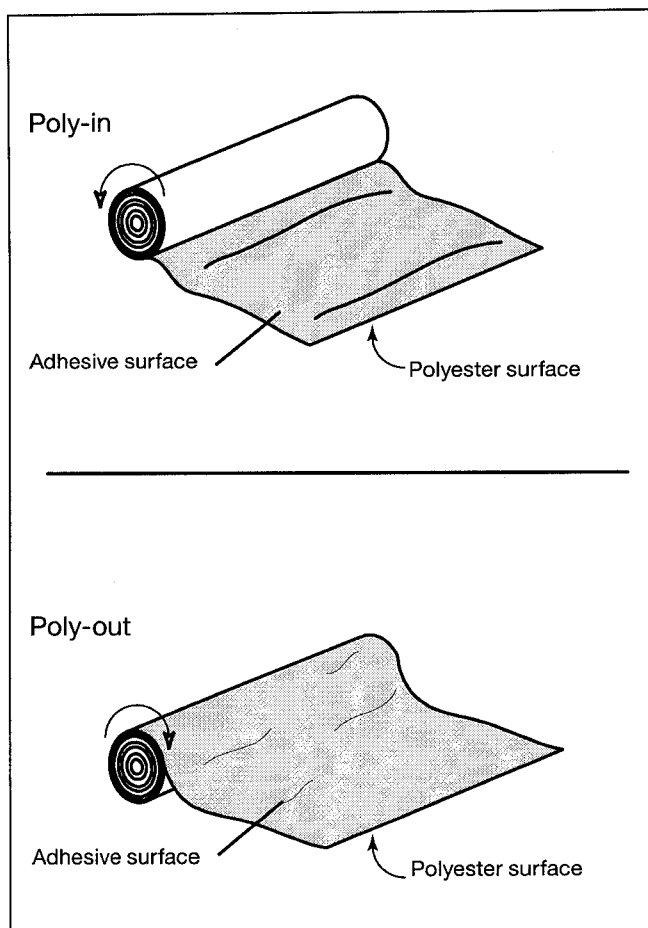

Fig. 6-3. Poly-in and Poly-out Films.
2. Slide the new roll on to the shaft and core adaptors, referring to Fig. 6-3, to determine how the film unwinds from the roll. Use the set screws in the core adaptors to move the adaptors if needed. The grippers on the core adaptors should be pointing in the opposite direction that the film unwinds from the roll.